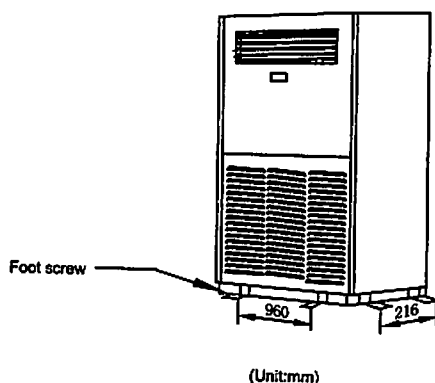

Fig. 3-4
- See Fig. 3-4 to fix the feet on the floor after select a proper place for installation, since the height of this unit casing is very high.